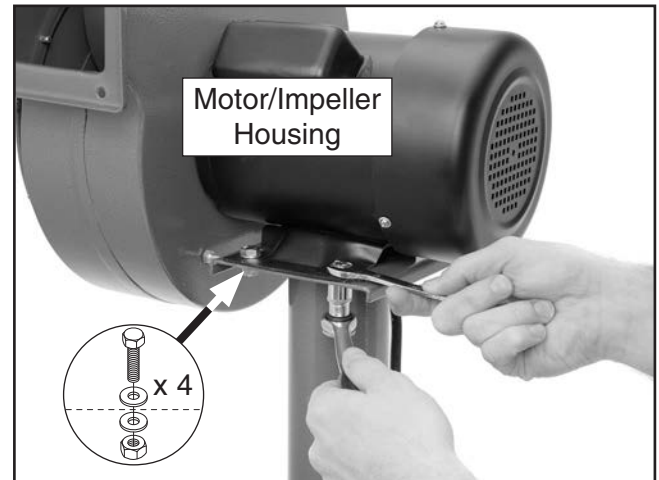

Figure 8. Attaching motor/impeller housing to motor plate.
3. Attach motor/impeller housing to motor plate with (4) M8-1.25 x 15 hex bolts, (8) 8mm flat washers, and (4) M8-1.25 hex nuts (see **Figure 8**).